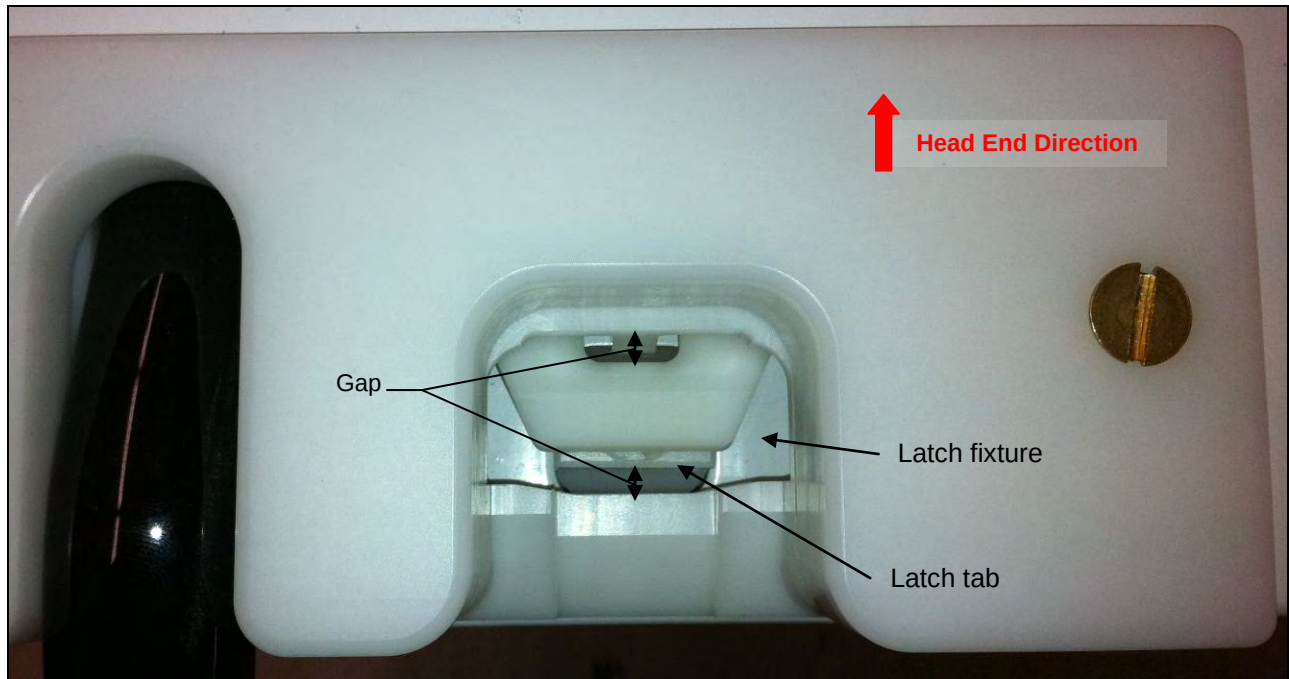

Figure 51
5. Ensure there is a gap between each side of the latch tab and the latch fixture by firmly pushing the patient support towards the head end of the stretcher which will slide the UBS forward and observing the position of the patient support with respect to the latch fixture (Figure 51). The latch tab must not rub any part of the latch fixture when the patient support is at its home position on the stretcher.